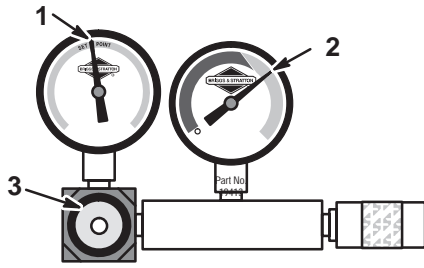

Fig. 49 – Setting Tester
9. With breaker bar held securely, slowly turn regulator adjustment knob clockwise until tester's inlet gauge needle is on the set point. Push in regulator lock nut. Note position of outlet gauge needle, Fig. 49.